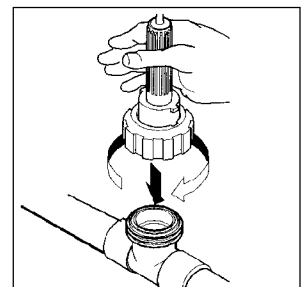

FIGURE 22
11. Discard high buffer solution. Reinstall pH sensor into flow assembly (see fig. 22), close sample valve and open isolation valves. Press **HOME** repeatedly to return to **MAIN MENU-DISPLAY DATA**. Press **ENTER** to display data to verify calibration.